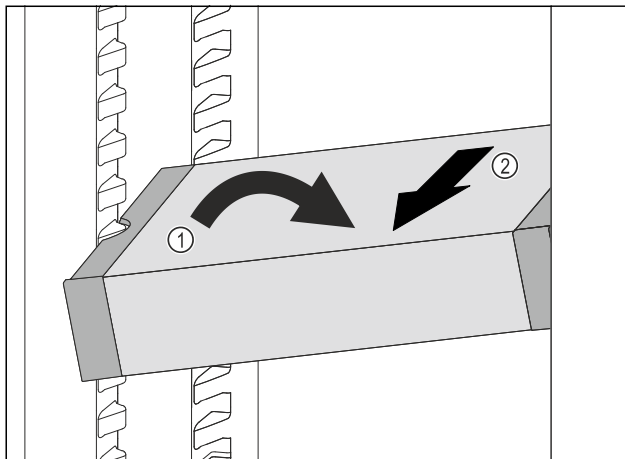

Fig. 125
- Set VarioSafe in refrigerator compartment at an angle. Fig. 125 (1)
- Take VarioSafe out to the front. Fig. 125 (2)